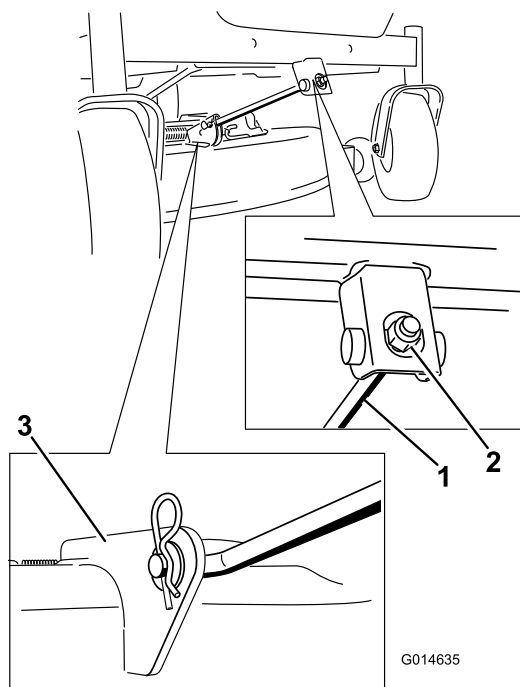

Figure 70
5. Remove the hairpin cotter from the front support rod, and remove the rod from the deck bracket (Figure 70).
8. Attach the front support rod to the mower deck with the clevis pin and hairpin cotter (Figure 70).